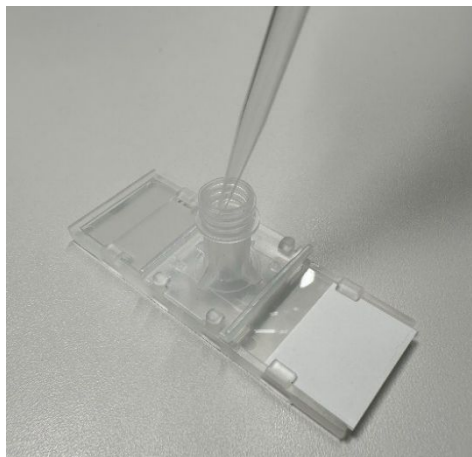

Figure 7. Adding 200 μ L of drying buffer after the first centrifugation step.
- Gently pipette 200 μ L of drying buffer into the funnel so the buffer runs down the inside wall (Figure 7).